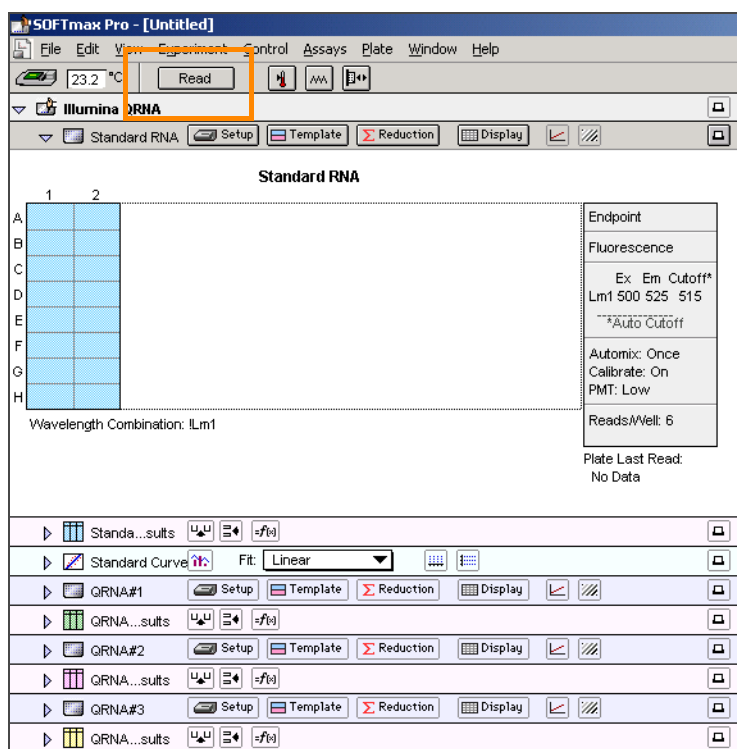

Figure 18 Read the Standard QDNA Plate
- Click **Read** in the SoftMax Pro interface (Figure 18) to begin reading the Standard QDNA Plate.